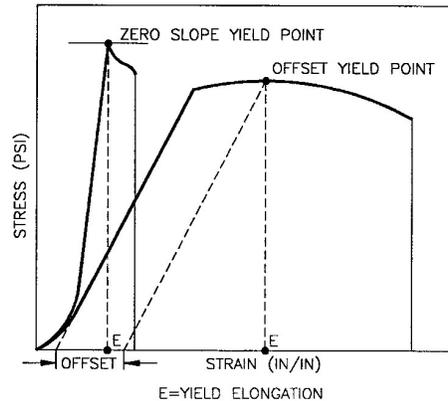

Figure AC.3: Yield Elongation
M. Yield Point (Zero Slope Method) – The yield point is determined by finding the first section of the curve where the slope of a least squares line fit of five consecutive data points is zero or negative. The point of maximum load or stress is selected from these five data points and the stress is reported as Yield Point. This point is illustrated on Figure AC.3.
2. Constructing a parallel line to 1. above offset by a percentage of strain. Offset for metals is usually specified as 0.2% and the offset for plastics is usually 2.0%. The intersection of the offset line and the stress strain curve determines the Yield Point. It is also referred to as Yield Strength. This point is illustrated on Figure AC.3.
O. Yield Elongation is the Strain recorded at either of the Yield points above. The yield elongation is illustrated in Figure AC.3.